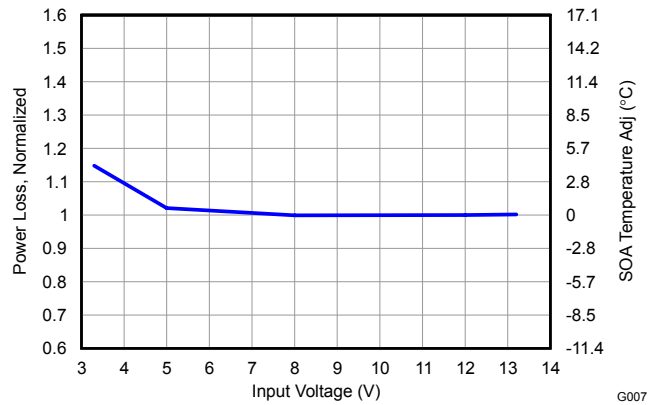

Figure 13. Normalized Power Loss vs Input Voltage
- Normalized Power Loss for input voltage  $\approx$  1.07 (Figure 13)
- SOA adjustment for input voltage  $\approx$  0.1 $^{\circ}$ C (Figure 13)